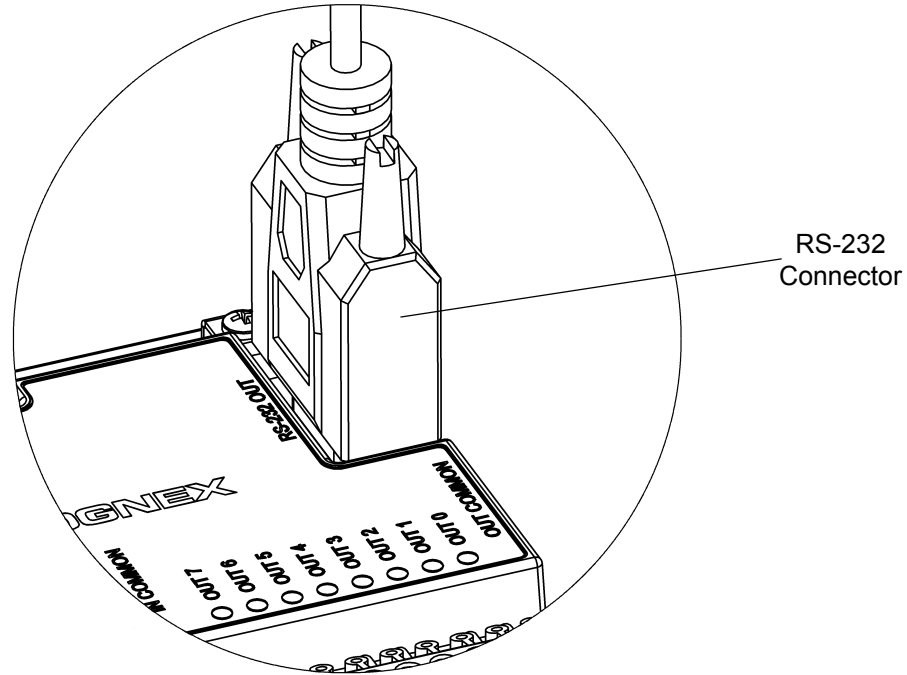

Figure 2-8: Connecting the RS-232 Cable
- If you want to connect the In-Sight vision system to a serial device, plug the RS-232 serial cable (DB9 connector) into the I/O module's RS-232 port, as shown in Figure 2-8, and connect the other end of the cable to the serial device. Tighten the connector screws to secure it to the I/O module.